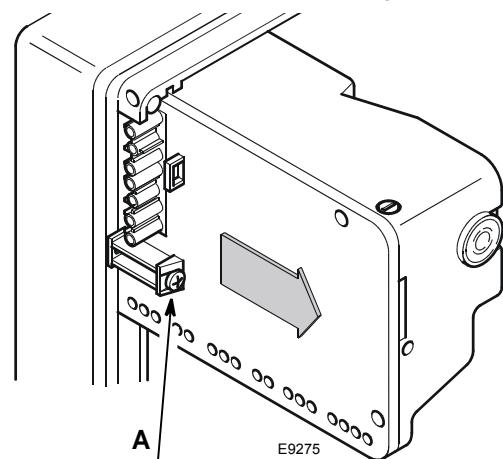

Fig. 3
- disconnect the control box from the burner by loosening the screw **A** (Fig. 3) and pulling in the direction of the arrow.
- Install the new control box supplied, fixing it to the burner with the screw **A** (Fig. 3) and using a tightening torque of 1 - 1.2 Nm.